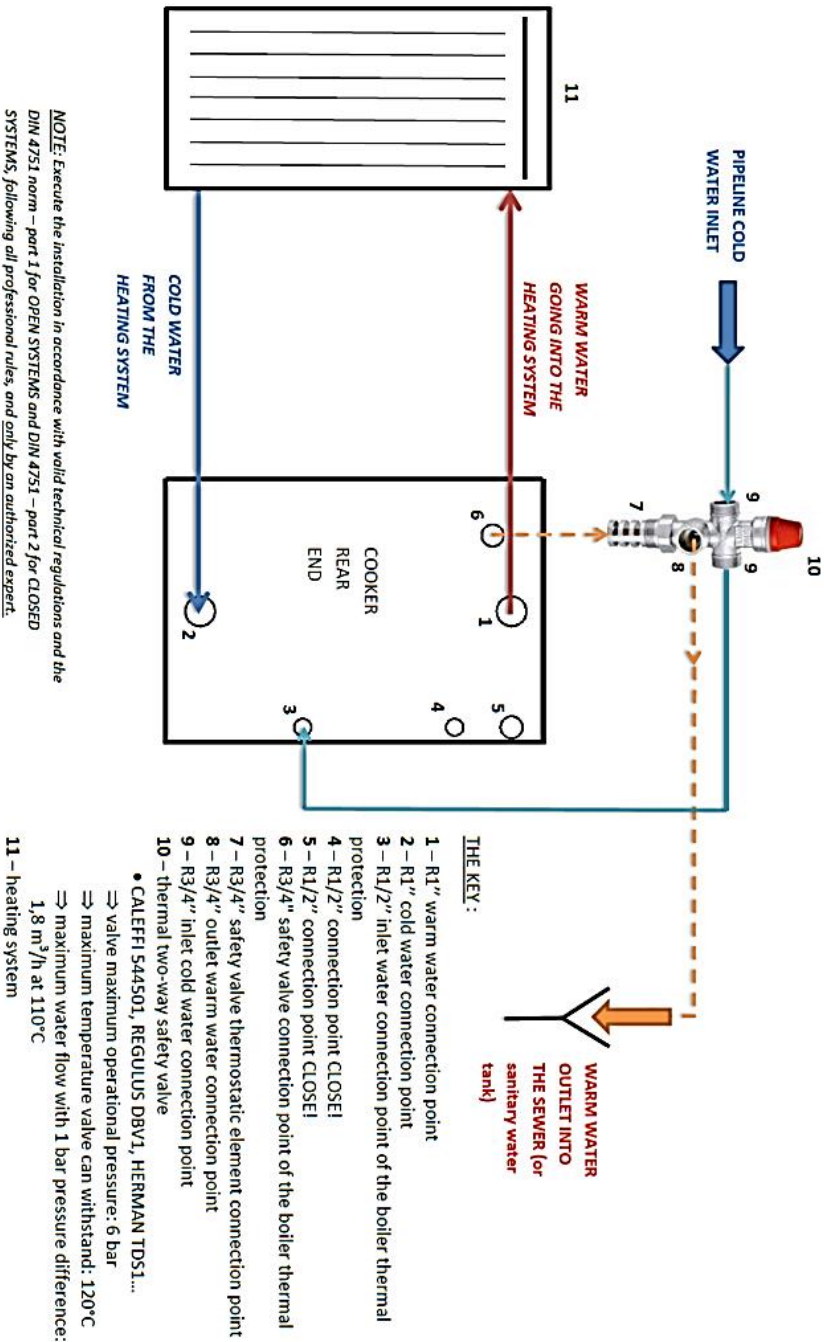

figure 13
- **R3/4" (8)** - figure 13, OR